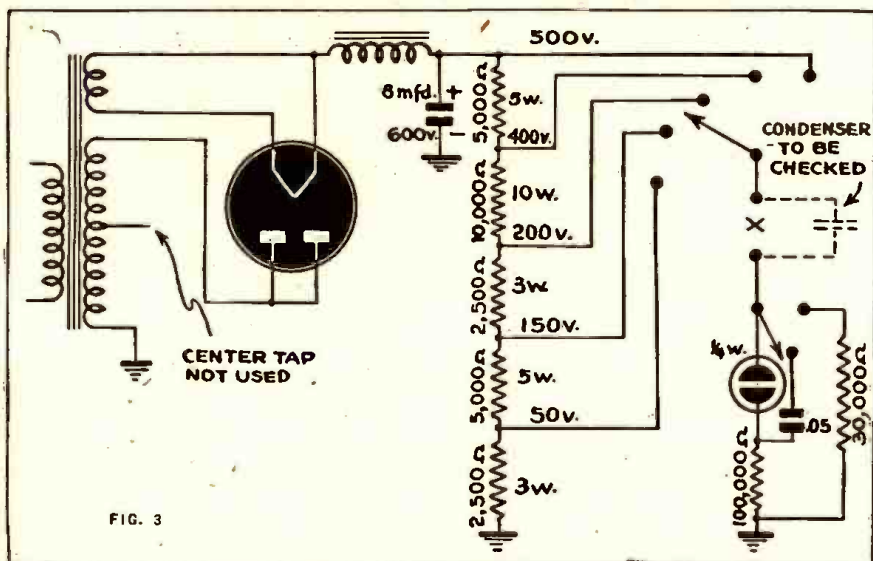

FIG. 3
A. The leakage tester shown can be used with any one of several rectifier tubes, such as the 80, 5Y3-G, 6X5, etc. The switch is placed on the .05 condenser to check paper condensers, and on the shunting 30,000-ohm resistor for electrolytics. (See Fig. 3.)